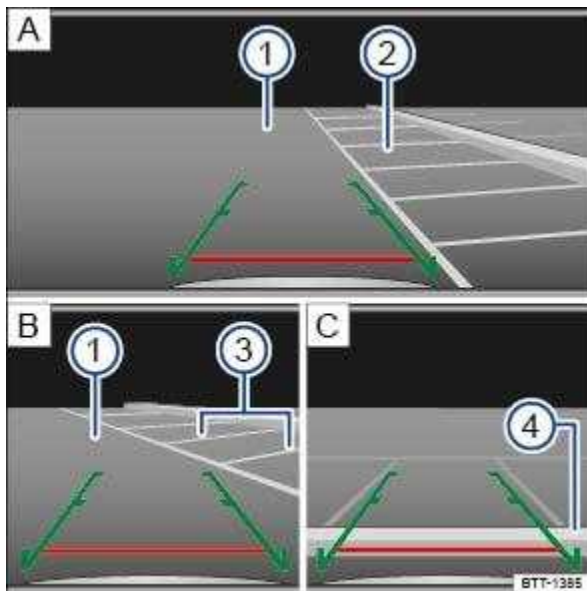

Fig. 129 Infotainment system display: parking using the rear view camera system.
Key to ⇒ Fig. 129 :
Position the vehicle in front of the parking space ⇒ Fig. 129 ② **A**.